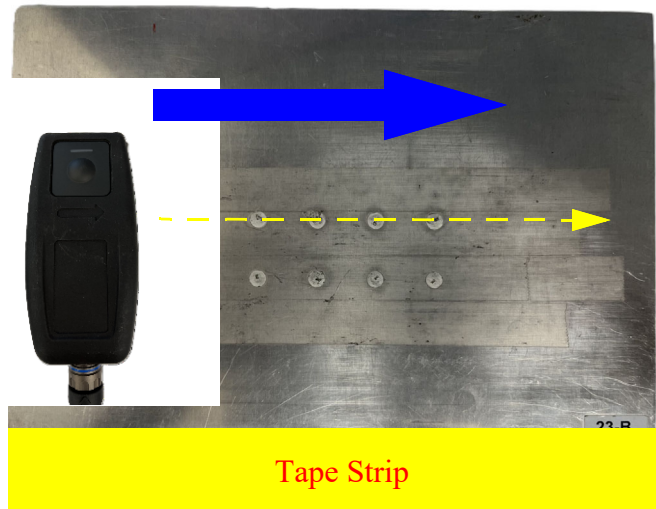

Figure 4-66 Position the Probe
12. Position the probe on the flawless area of the reference standard and press **Null** (See Figure 4-66 on page 168).
2. Position the probe at the left edge of the reference standard such that you can scan both rows of rivets at the same time (See Figure 4-66 on page 168).